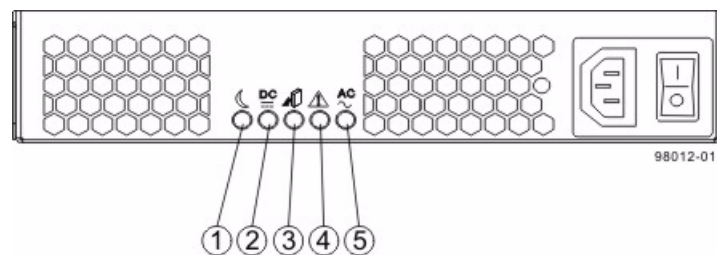

Figure 5.1 LEDs on an AC Power-Fan Canister
- Check the Power-Fan Service Action Required LED to locate the failed AC power-fan canister (see *Figure 5.1*).
15. Check the Power-Fan Output DC Power LED, the Power-Fan Input AC Power LED, and the Power-Fan Service Action Required LED on the new power-fan canister (see *Figure 5.1*).